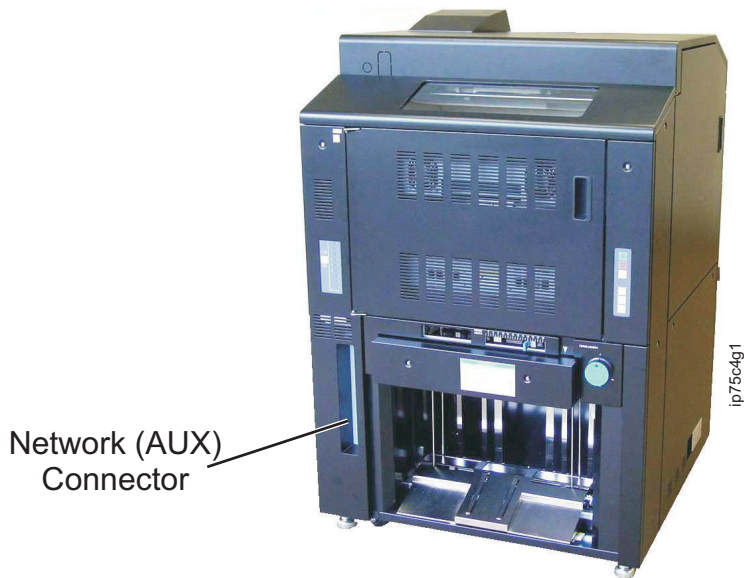

Figure 6. Location of Network Connector
Connect the printer to the network using an unshielded twisted pair (UTP) cable of category 3 or better for 10 BASE-T, category 5 or better for 100 BASE-TX, or category 5e or better for 1000 BASE-T. Figure 6 on page 44 shows the network connector location (10/100/1000B-T connector) on the rear of the printer.
1. Before you power on and configure network settings, connect the Ethernet cable to the Network Connector shown in Figure 6. If the printer is already powered on, power off, attach the connector, and power on.